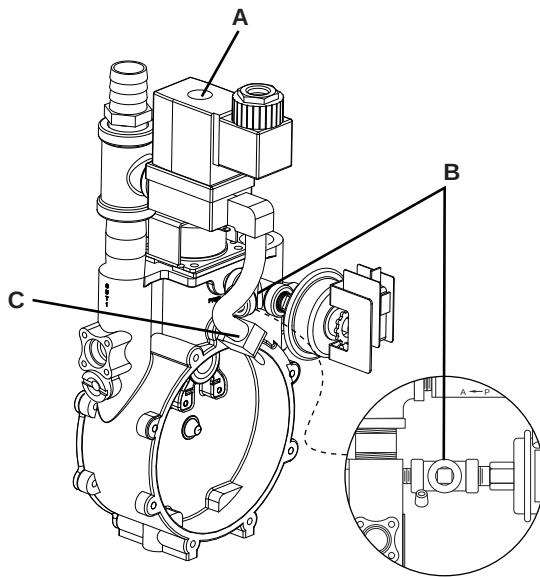

Figure 22. Fuel Regulator Test Points
2. Connect a manometer to Test Port B (see Figure 22).
1. Disconnect the hose from Test Port C shown in Figure 22.
8. Hold the blade of a screw driver over Test point A (see Figure 22).